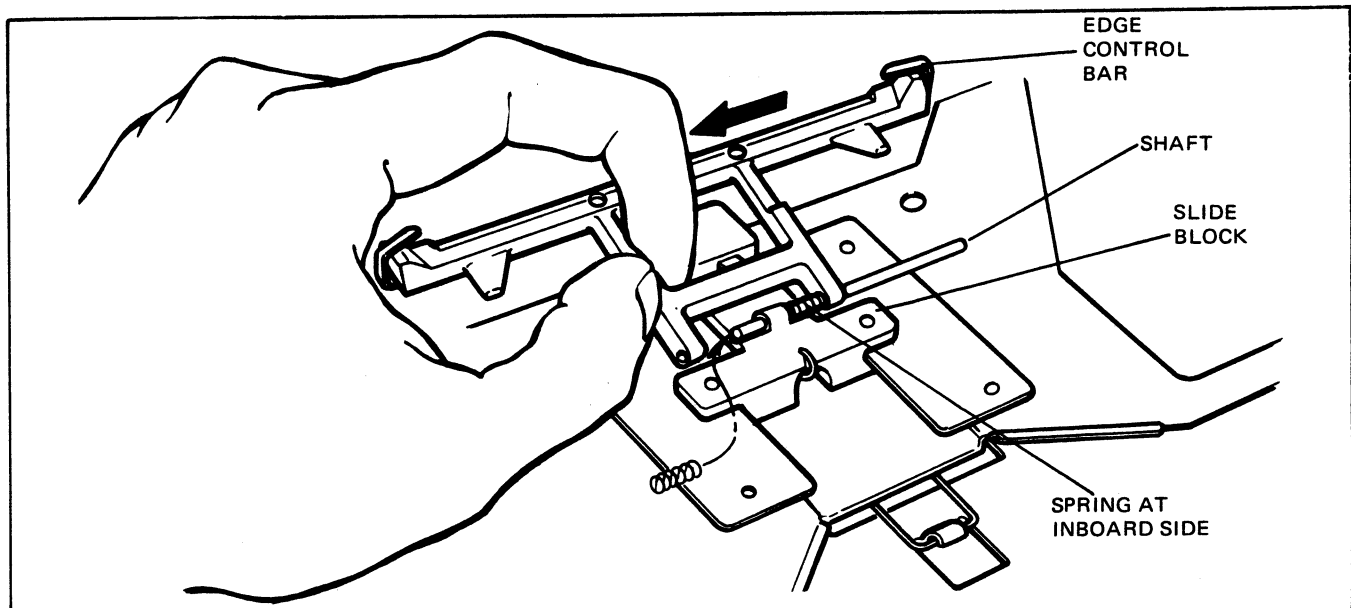

FIG. 5.4 REPLACING THE EDGE CONTROL BAR
2. Replace the edge control bar (see Figure 5-4). Slide the shaft in the edge control bar